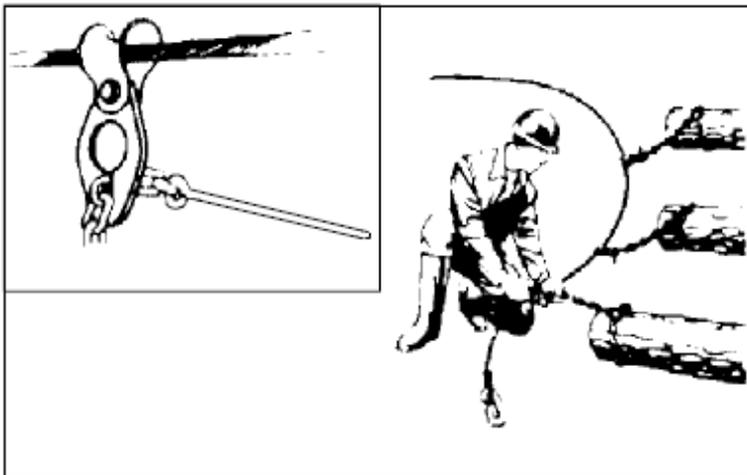

Fig. 8.
3. Several logs can be hooked up and winched in at one time by means of keyhole sliders on the cable. The skidding chain should have a pin on the end, which makes it easier to pass the chain underneath the tree. See fig. 8.